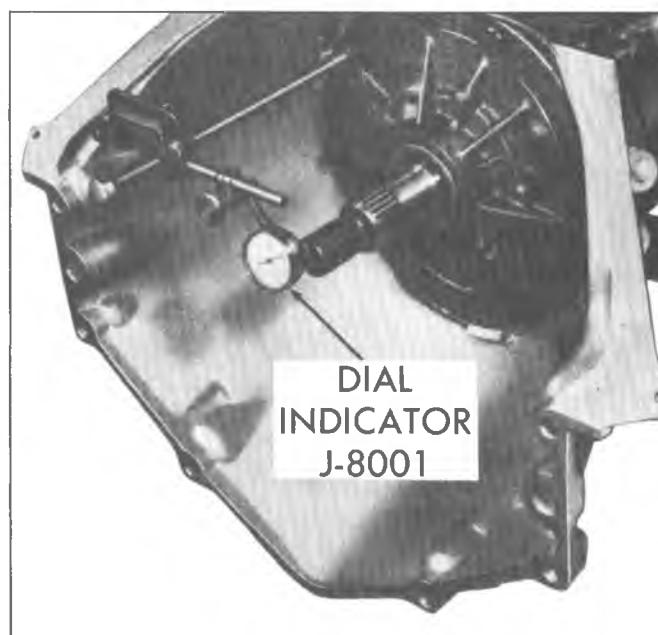

Fig. 139T--Checking Front Unit End Play
21. Install all but one pump attaching bolts and seals. Torque to 18 ft. lbs. (See Figure 139T for location of omitted bolt.)
23. Check front unit end play as follows (fig. 139T).